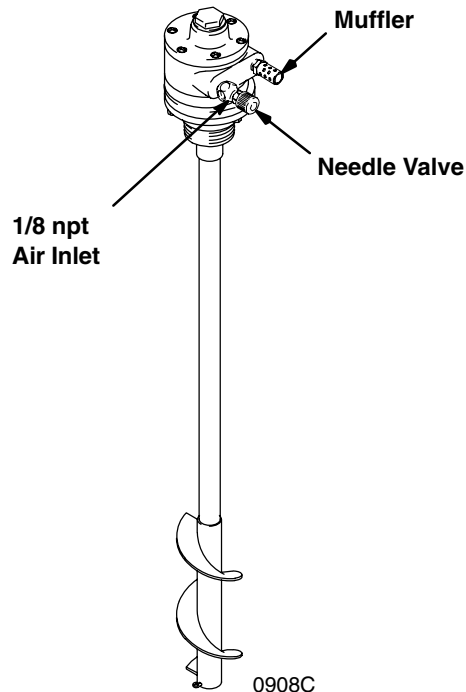

Fig. 1
2. Position the air motor so the air line can easily be attached to the needle valve's 1/8 npt inlet, without obstructing any other system components. See Fig. 1.
NOTE: The agitator rotation may be reversed by switching the muffler and needle valve. Refer to Fig. 1.